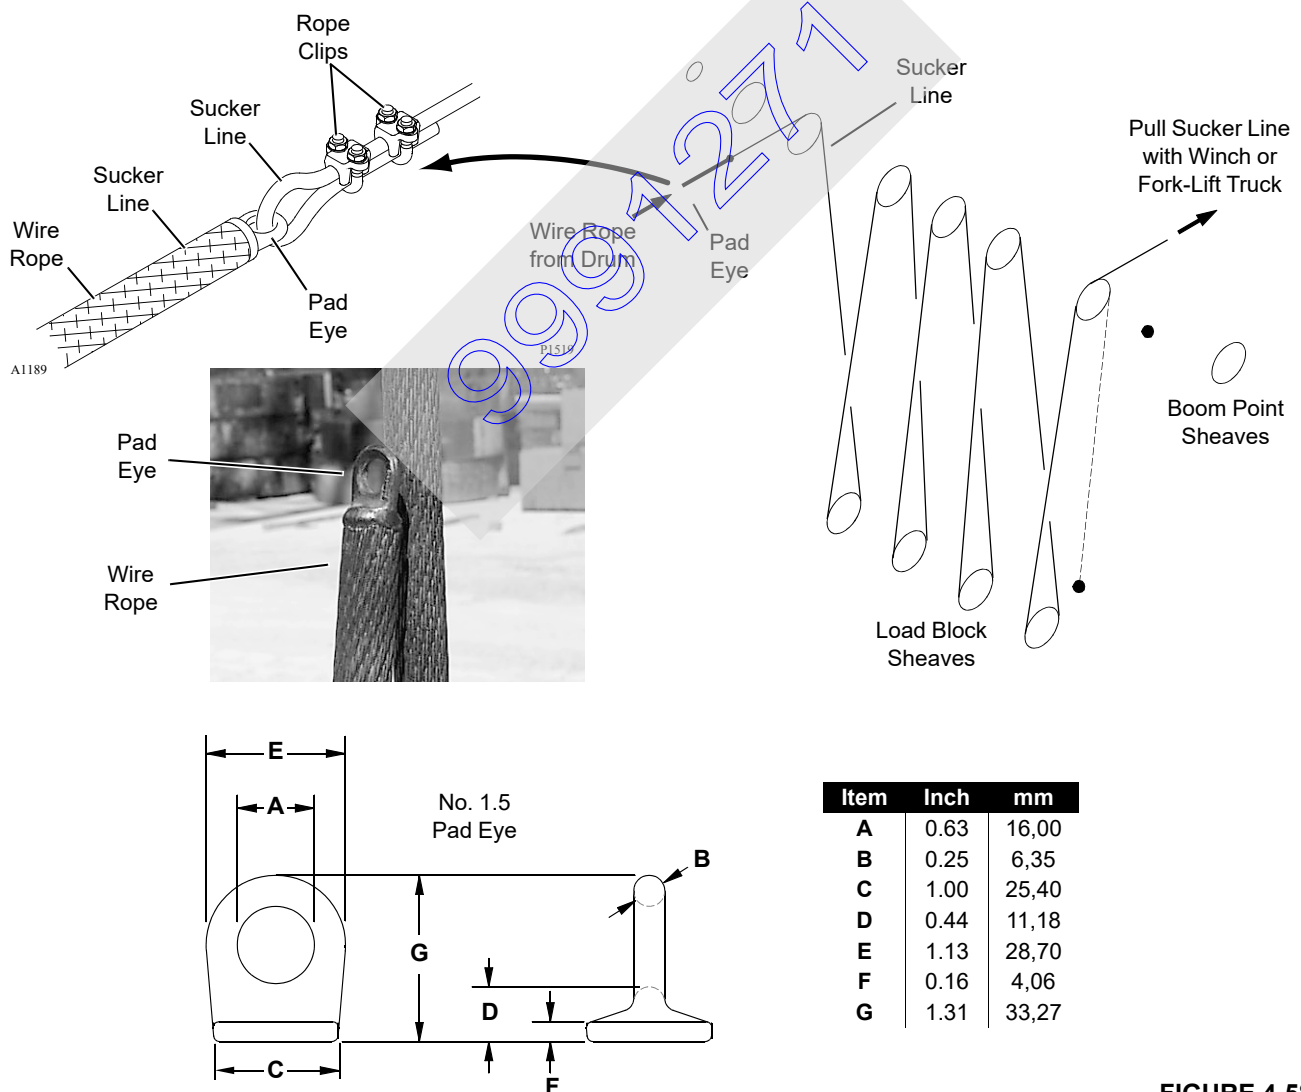

FIGURE 4-58
See Figure 4-58 for the following procedure.
- Any original dimensions have changed (Figure 4-58)